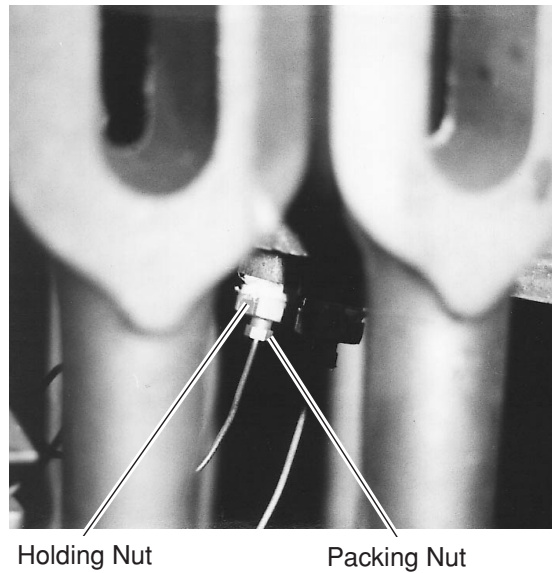

Fig. 11
5. From inside the fryer cabinet, follow the thermostat lead wire to the bulb packing nuts in the bottom of the tank. With a 5/16" wrench remove the thermostat packing nut and with an 11/16" wrench remove the thermostat bulb holding nut. (Fig.11)